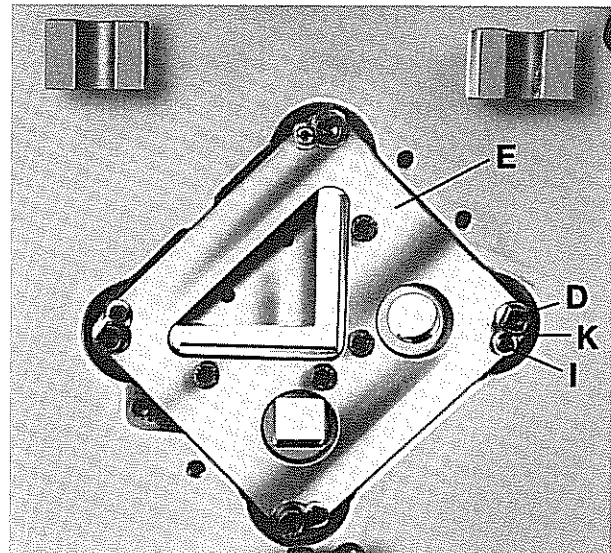
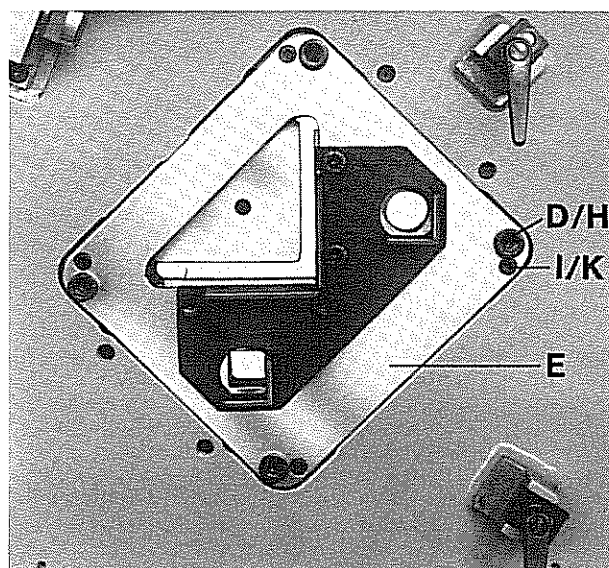

Fig. 40: Blades for angles, seen from body side (KBLH 300)
Fig. 42: Blade for angles, seen from body side (KBLH 500, 700 and 1000)
(KBLH 300: Cf. fig. 40, 41, 46, KBLH 500, 700 and 1000: Cf. fig. 42, 43, 47)
2. Installing the Section Blades (KBLH 300 - Cf. fig. 40, 41, 46, KBLH 500, 700 and 1000: Cf. fig. 42, 43, 47)